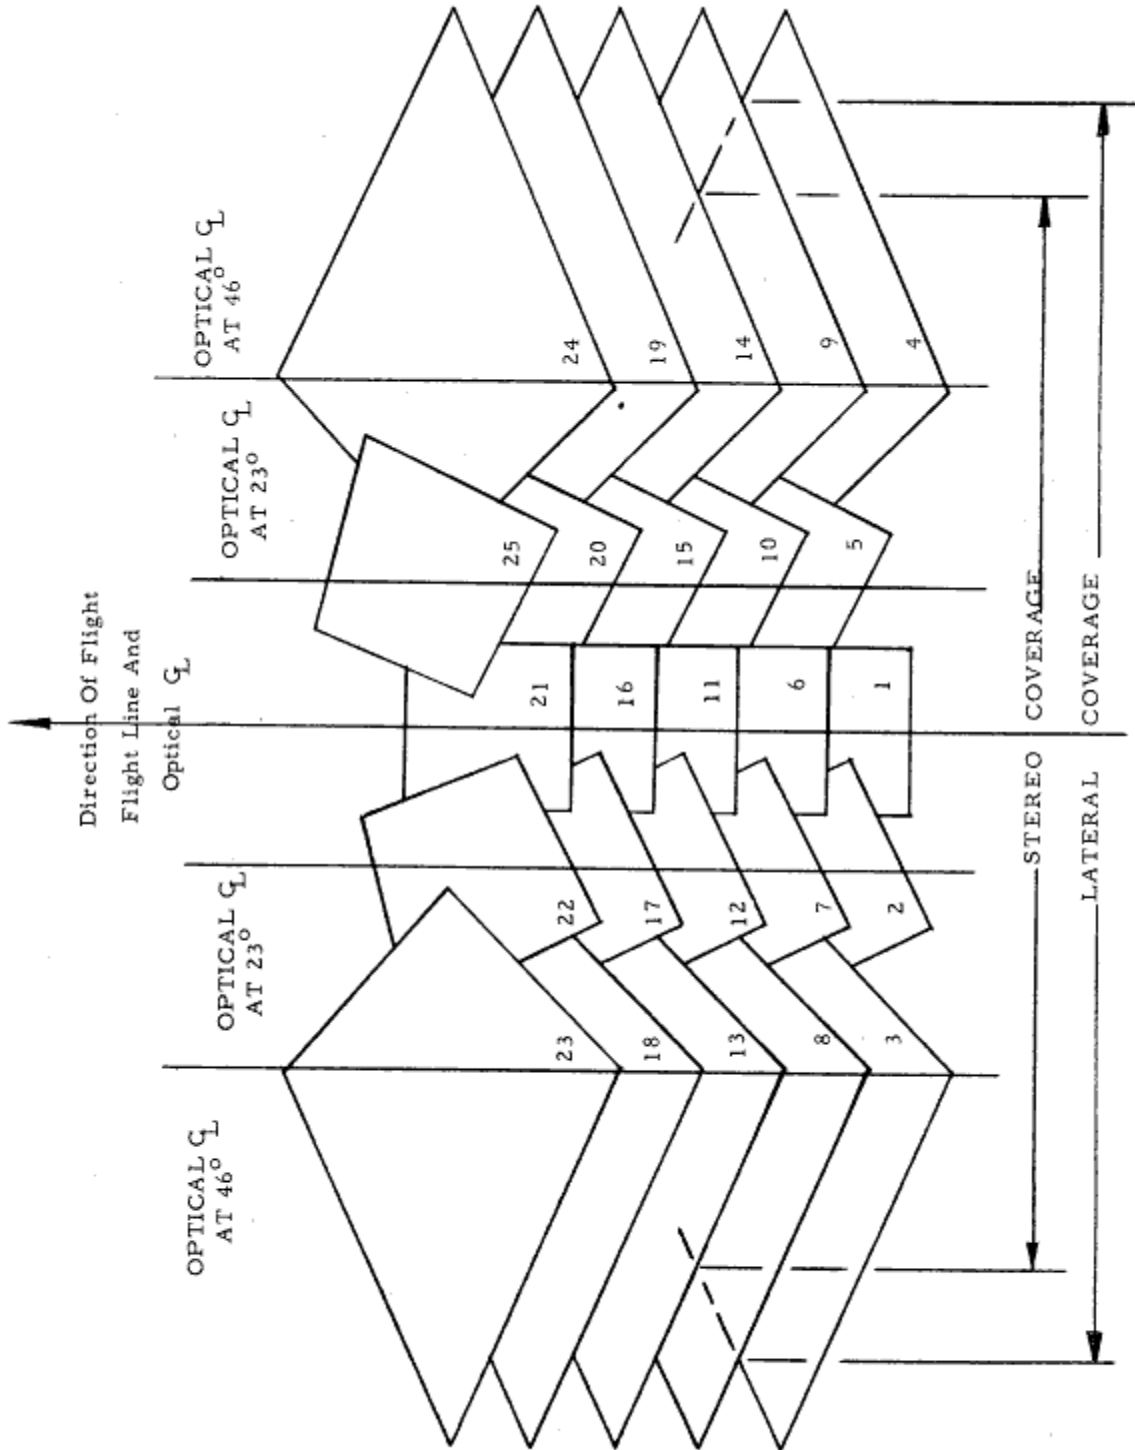

Figure 3-1. Ground Coverage Format, Straight and Level Flight, Type III
- 3-3. Photographic coverage of the camera system is represented in Figure 3-1. There are two distinct modes of operation with the Type III package. Mode 1 sweeps continuously through the five basic positions while mode 2 photographs continuously at the same rate, however, in a vertical position only. Mode 1 covers approximately  $60^{\circ}$  each side of nadir. Mode 2 covers  $14^{\circ}$  each side of nadir. Each mission can provide 2850 nautical miles flight line coverage on 3900 frames and 51 to 55 nautical miles (or approximately  $120^{\circ}$ ) of total transverse coverage. The scan overlap provides stereo viewing approximately  $53^{\circ}$  each side of nadir or an approximate total of  $106^{\circ}$ . See Figure 3-1.
- 3-19. Results of the Type III camera are sets of photographs in the format shown in Figure 3-1. Each frame contains recorded data and identification of frame position, i. e., one through five. Approximately 3900 photographs with recorded data can be expected from a full film supply of 6000 feet. Individual frame size is 18 inches by 18 inches.